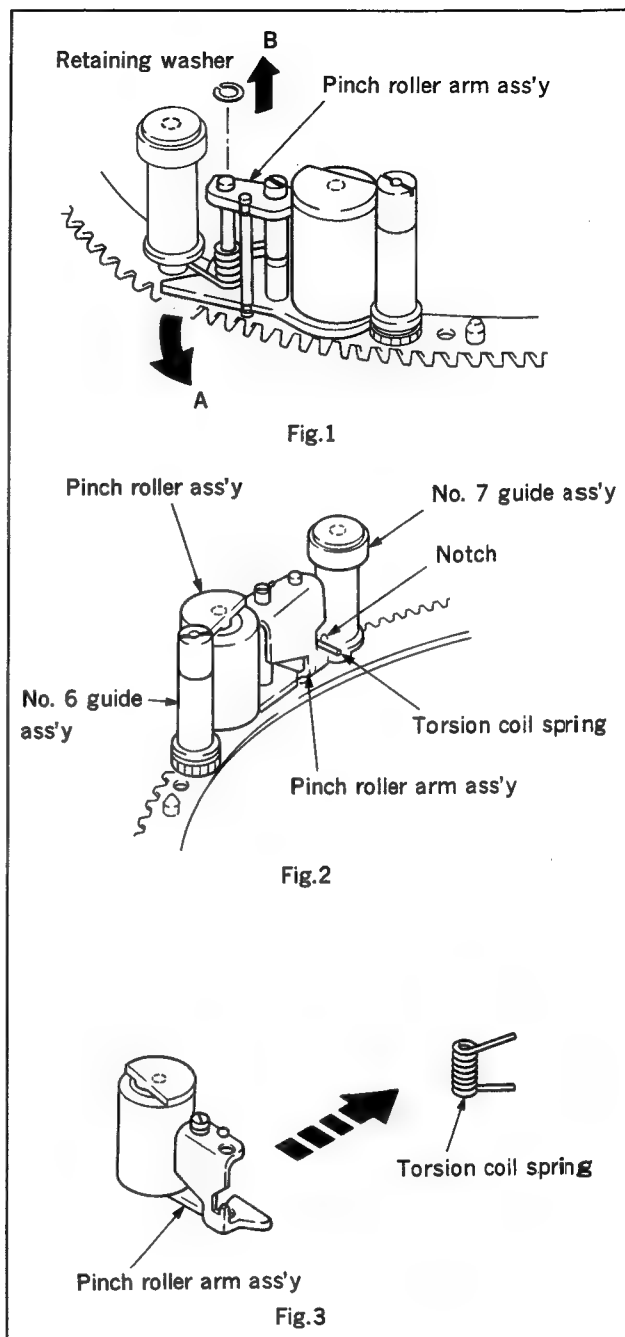

Fig. 4-6-1 Pinch roller arm ass'y removal
2. Pinch roller arm ass'y removal (Fig. 4-6-1)